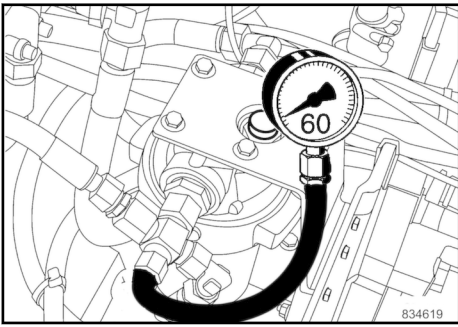

Fig. 151
9. Connect a 60 bar pressure gauge ↪ Fig. 151 to the charge pressure test port and run the engine max. 15 seconds at idle speed.